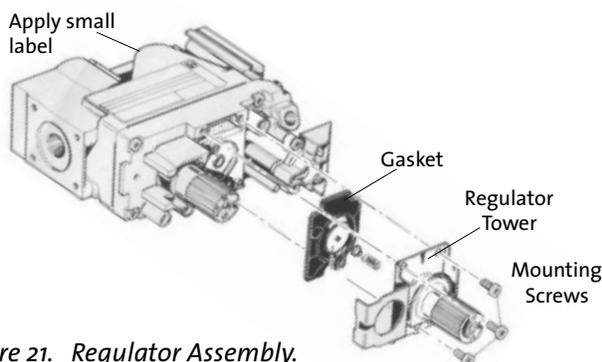

Figure 21. Regulator Assembly.
10. Replace the Variable Regulator. Using a Torx T-20 screwdriver, remove the three specialty screws from the front of the valve regulator. See fig. 21.